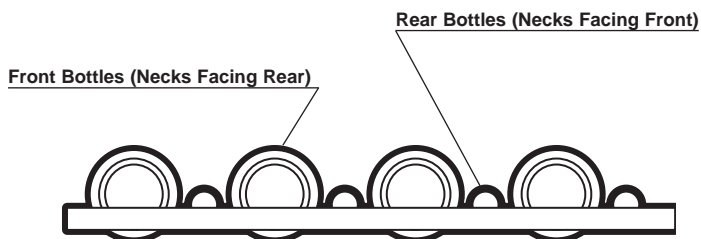

Figure 3
**Insert Wine Bottles:** The wine rack roll-out shelf holds eight bottles. See figure 3 for typical wine bottle orientation.